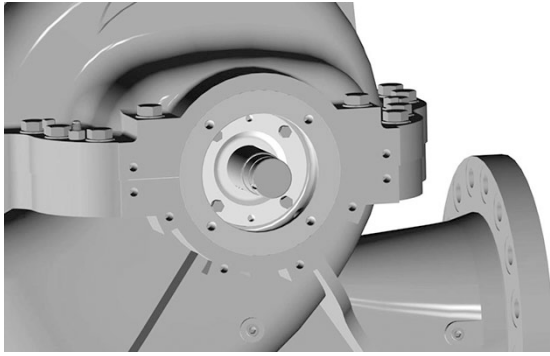

Figure 31: Seal end cover (seal gland) fastened to seal body (stuffing box)
4. Slide the seal end cover, over the shaft, being careful that the head and the seat of the mechanical seal does not get damaged. Then press the seal end cover with the O-ring into the seal body and tighten the capscrews. (see Figure 31)